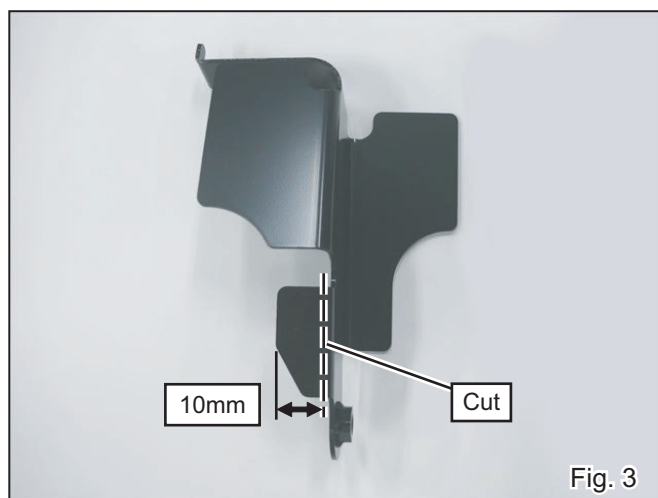

Fig. 3
- 4) Check the genuine radiator bracket shape. If it is same as Fig. 3., cut off the piece along the line.